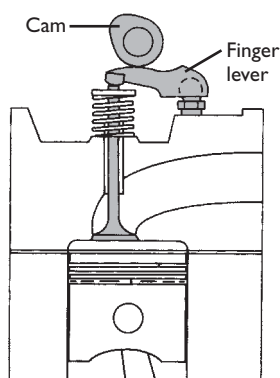

Figure 5.16 Overhead cam with followers
- Overhead cam with followers (Figure 5.16). Using an overhead cam (OHC) reduces the number of moving parts. In the system shown here the lobe of the cam acts directly on the follower, which pivots on its adjuster and pushes the valve open.